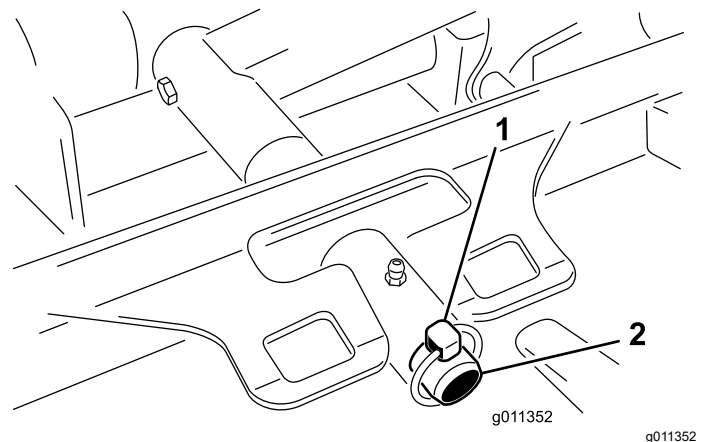

Figure 79
3. Remove the lynch pin (for Groundsmaster 4500 machines) or retaining nut (for Groundsmaster 4700 machines) securing the cutting unit-carrier frame to the lift-arm pivot pin (Figure 79).
2. Slide the cutting unit-carrier frame onto the lift-arm-pivot pin (Figure 79). Secure the cutting unit to the pin with the lynch pin (for Groundsmaster 4500 machines) or retaining nut (for Groundsmaster 4700 machines).